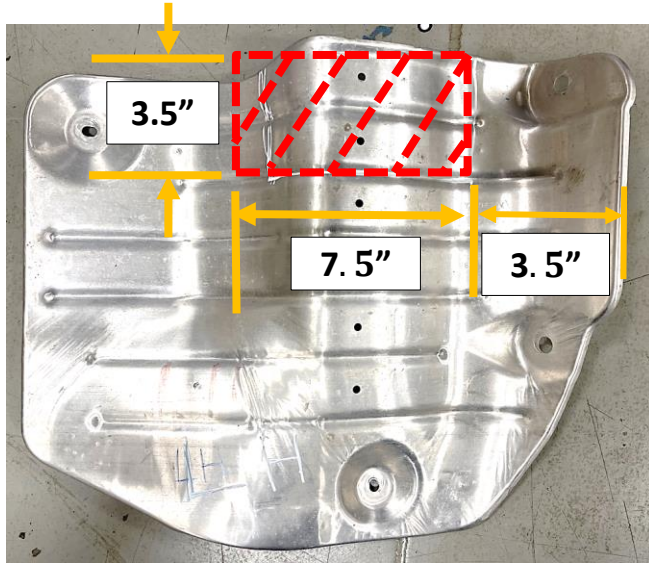
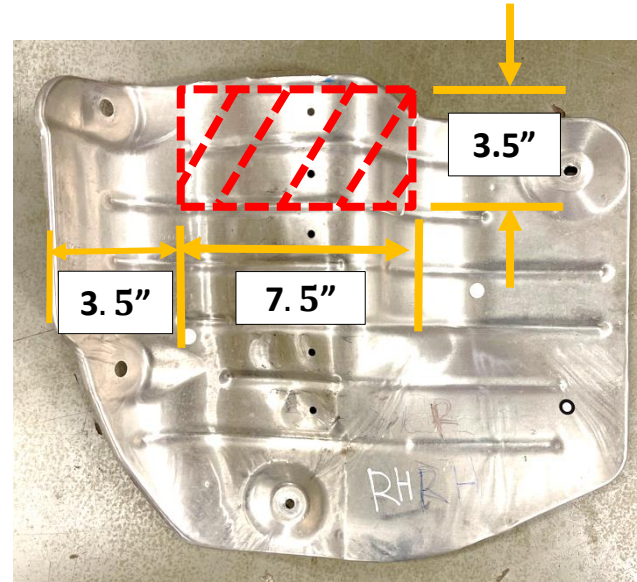

Figure 3
Figure 4
5. Trim heat shield – Using a tape measure, marker & tin snip, measure, mark, and trim the area on the heat shields as shown in Figure 3 (driver side heat shield) & Figure 4 (passenger side heat shield).